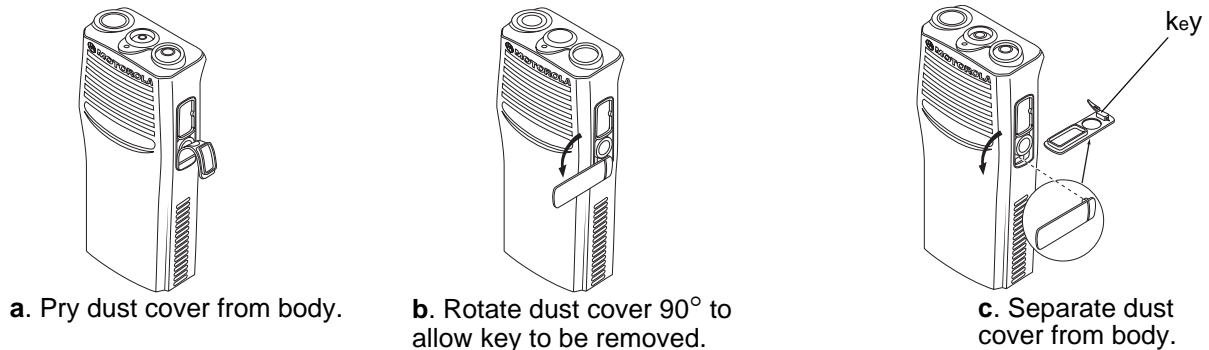

Figure 2-4. Dust Cover Removal
- a. Gently pry the top of the dust cover away from the body of the radio. (See Figure 2-4.)